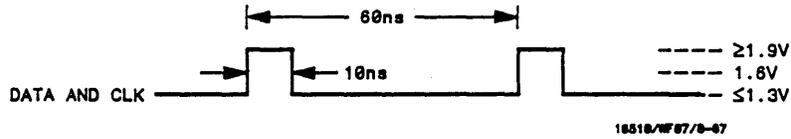

Figure 3-3. Waveform for Clock, Qualifier, and Data Inputs Test 1
2. Adjust pulse generator for the output in figure 3-3.